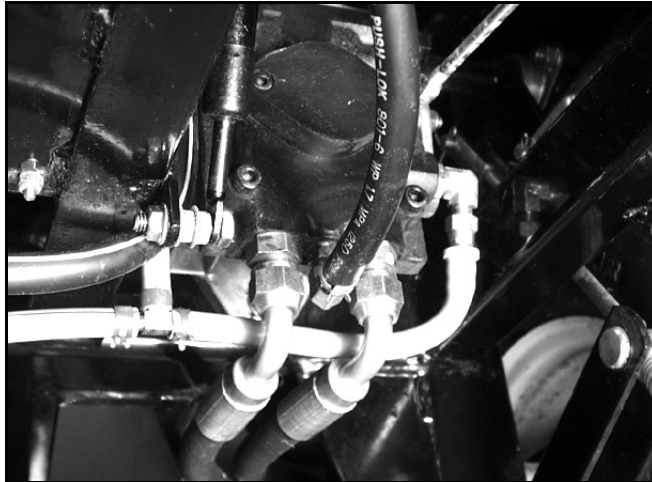

Figure 61
1. Clean the pump of any dirt and debris that may be around the hoses to prevent dirt from entering the hydraulic system (Figure 61).